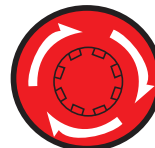

Figure 59. Emergency Stop Switch
1. To stop the engine in the event of an emergency, press the **Emergency Stop switch** (Figure 59).